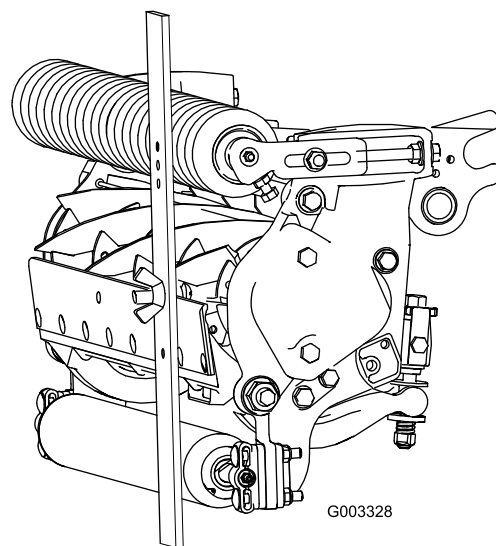

Figure 21
3. Hook the screw head on cutting edge of bedknife and rest rear end of bar on rear roller (Figure 21).
4. Rotate the adjusting screw until the front roller contacts the gauge bar (Figure 21). Adjust both ends of roller until entire roller is parallel to the bedknife.